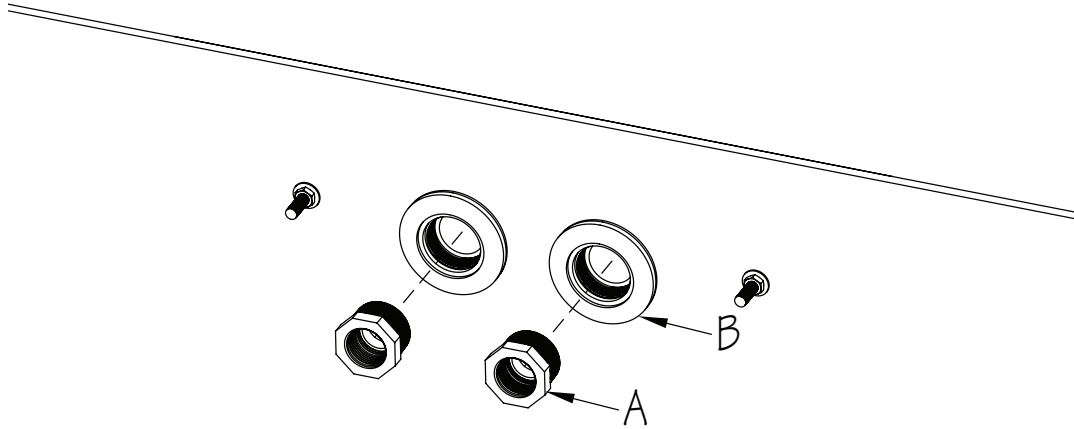

Fig. 9
8. Apply Teflon sealant to the threads of each Bushing Reducer (A) and then thread them into the Thru-Wall Fittings (B) (Fig. 9).